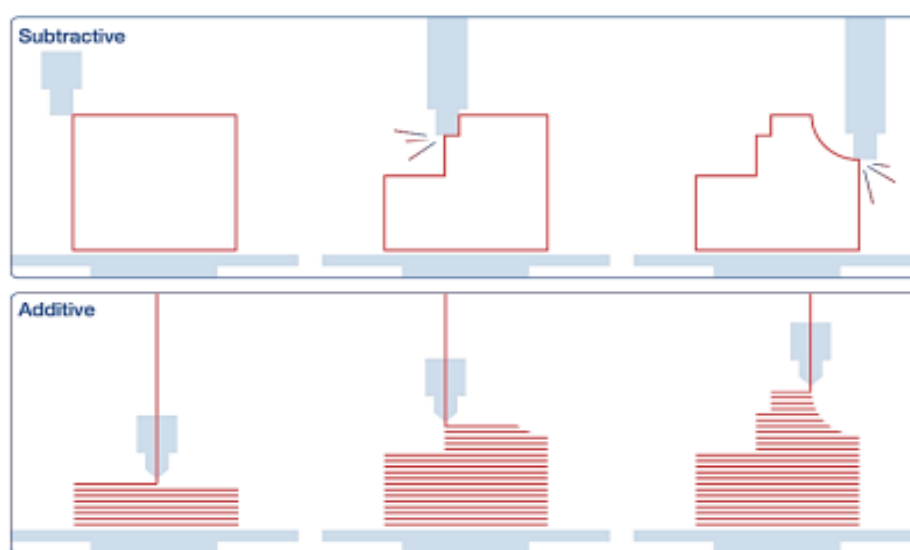

Fig. 2.2: Difference between Subtractive and Additive Manufacturing
1. **Material Removal vs. Material Addition:** CNC removes material to create a final product, while additive manufacturing adds material layer by layer (as shown in Fig. 2.2)